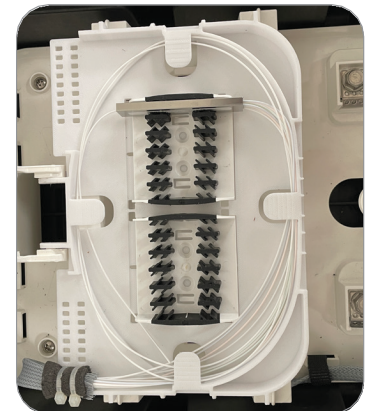

Figure 92
5. Secure the pigtail bundle to the splice tray entrance and place the PLC splitter chip in the far splice module slot. AFL recommends using the Foam Retention pieces (AFL No.: HW000406) or similar to protect the fiber. (Figure 92)